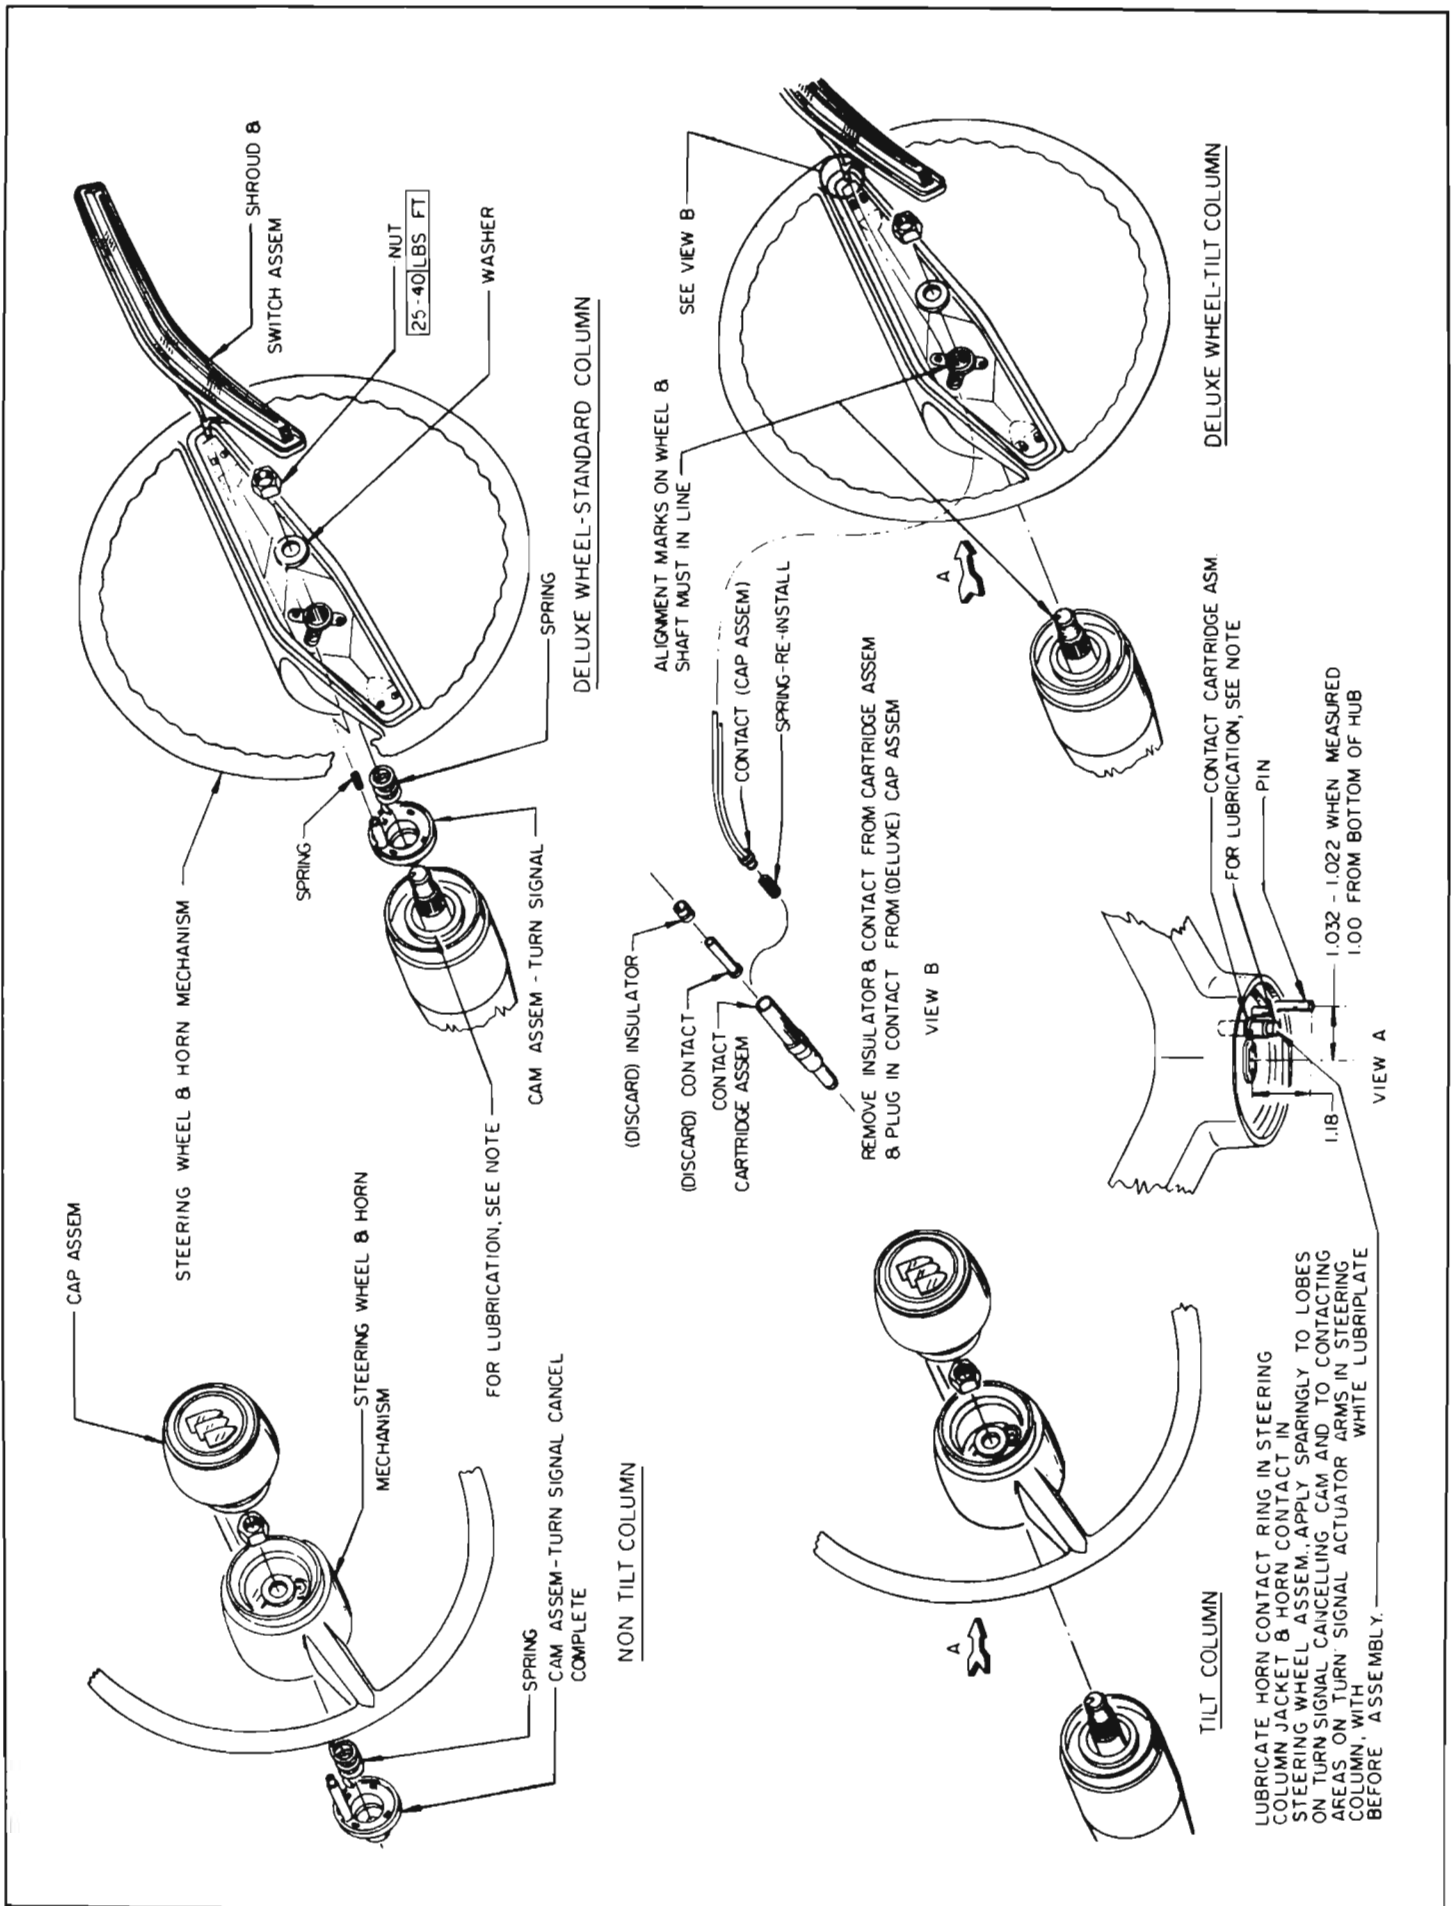

Figure 10-56—Steering Wheel Installation
The standard steering wheel has a cap at hub of wheel with a push button mounted in its center. See Figure 10-56. This push button operates the same as the two that are used with the deluxe steering wheel which is described below.
Current is supplied to the contact plate by a spring-loaded brush. See Figure 10-56. A wire attached to the contact ring runs down inside the steering column jacket and out under the instrument panel. The wire from the horn relay connects at this point.
2. If horns still do not blow when wire at mast jacket is grounded, unplug double connector from horn relay part of junction block assembly. See Figure 10-56. Then plug a known good relay and junction block assembly onto the connector and press battery terminal of new assembly against old junction block battery terminal stud for a source of current. Have helper try blowing horns. If horns blow, original
1. Disconnect multiple connector on harness that enters mast jacket. If horns stop blowing, relay is OK, but horn control circuit in jacket is grounded. If horns do not stop blowing, horn relay control circuit is grounded. Check horn wire and contacts in mast jacket and steering wheel if horns stopped blowing. See Figure 10-56.